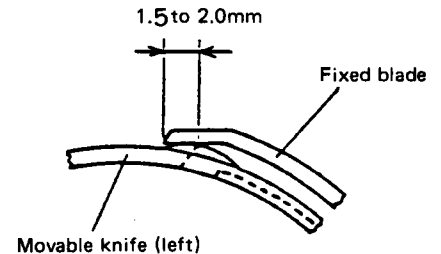

Fig. 13
(2) Adjustment of knife engagement amount
- ① Set the solenoid to the operation state and rotate the sewing machine. Then, the movable knife (left) is rotated by the thread trimmer cam. When the movable knife (left) has moved to the maximum, the standard engagement amount is 1.5 to 2.0 mm. See Fig. 13.
- ② Make adjustment by the installation of knife driving crank.